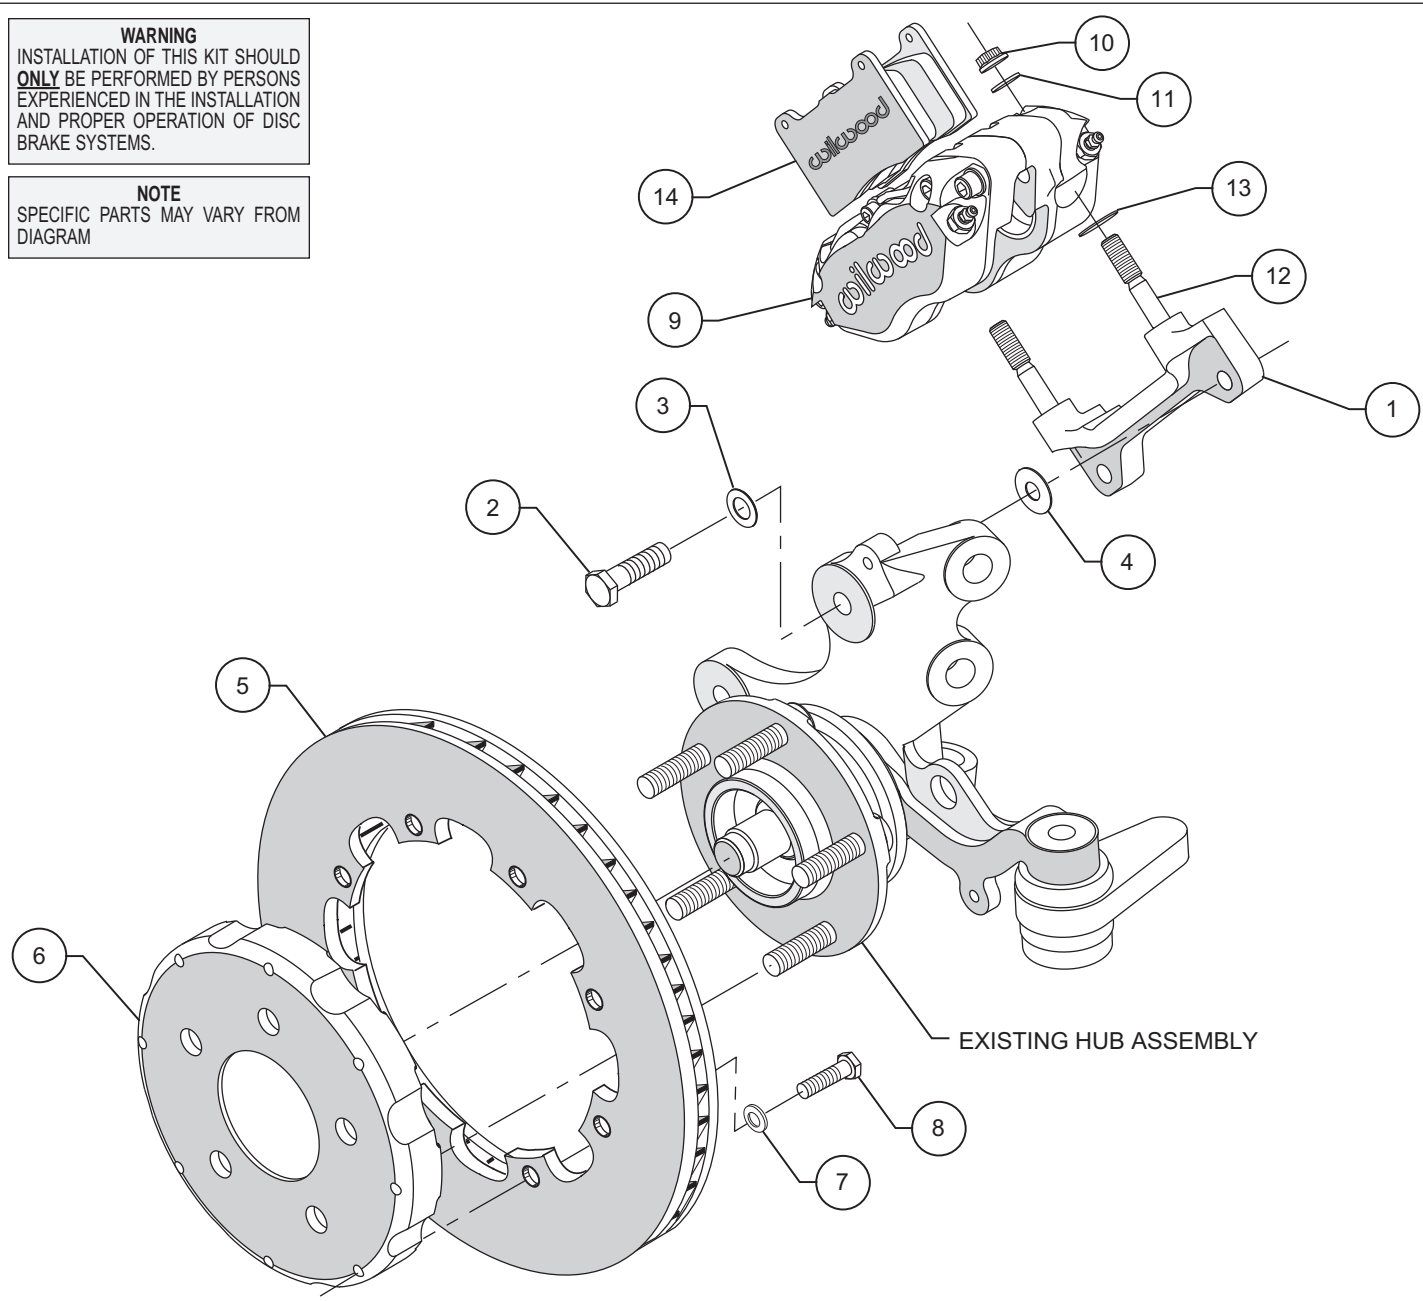
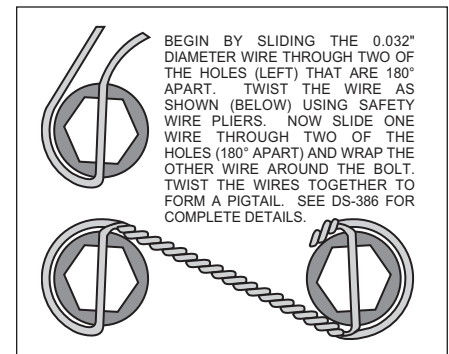

Figure 1. Typical Installation Configuration
Figure 3. Safety Wire Diagram
- The caliper mount bracket assembly (1) should be installed first with clean, dry threads on the mounting bolts. Install the bracket on the inboard side of the spindle by sliding bolt (2) through flat washer (3), and spindle ear from the outboard side of the spindle. Place shim washer (4) between the bracket (1) and the spindle (see figure 1). The bracket must tighten squarely against the inboard side of the caliper mount bosses on the spindle body. Inspect for interference from casting irregularities, machining ridges, burrs, etc. Use one thin shim (5) between the bracket and spindle during initial trial fitting. Later, after the caliper, pad, and rotor alignment has been checked, and any necessary shims have been put in place, the mount bolts should be coated with red *Loctite*® 271 and torqued to 60 ft-lbs.
- With the larger I.D. side of the rotor (5) facing away from the hat (6), attach the rotor (5) to the hat (6) using washers (7) and bolts (8) as shown in Figure 1. Using an alternating sequence, apply red *Loctite*® 271 to the threads and torque bolts to 25 ft-lb. For an added measure of security, the bolts may be safety wired using standard 0.032 inch diameter stainless steel safety wire as shown in Figure 3. Please refer to Wilwood's data sheet DS-386 (available at [www.wilwood.com/Pdf/DataSheets/ds386.pdf](http://www.wilwood.com/Pdf/DataSheets/ds386.pdf)) for complete safety wire installation instructions.
- Lubricate caliper mounting studs (12) and nuts (10) with lightweight oil. Install one shim (13) over each stud (12) on the radial mount bracket. Slide the caliper (9) in place over the studs and rotors and install the washer (11) and lock nut (10) to hold the caliper in place. Snug the lock nuts (10) and check that the rotor (5) is centered in the caliper (9). Add or subtract .015" shims (4) as necessary between the mount bracket and the spindle to center the caliper.
- Remove the caliper center bridge pad retainer bolt, nut, and tube from the caliper. Slide the brake pads (14) into place. They should install easily without interference. Check that the outside radius of the brake pad is aligned with the outside diameter radius of the rotor face. Add or subtract shims (13) between the caliper and mount bracket to gain the proper alignment. Reinstall the center bridge pad retainer tube, bolt, and lock nut. The locknut should be snug without play in the bolt or tube. Be cautious not to over tighten.
- Once all clearances have been checked, remove the wheel, caliper, hat, and rotor from the spindle and hub. Secure the caliper mounting bracket (1) to the spindle using red *Loctite*® 271. Torque the bolts to 60 ft-lbs. Reinstall the hat and rotor assembly and again use several lug nuts to hold it in place. Reinstall the caliper, torque the caliper nuts (10) to 30 ft-lbs.